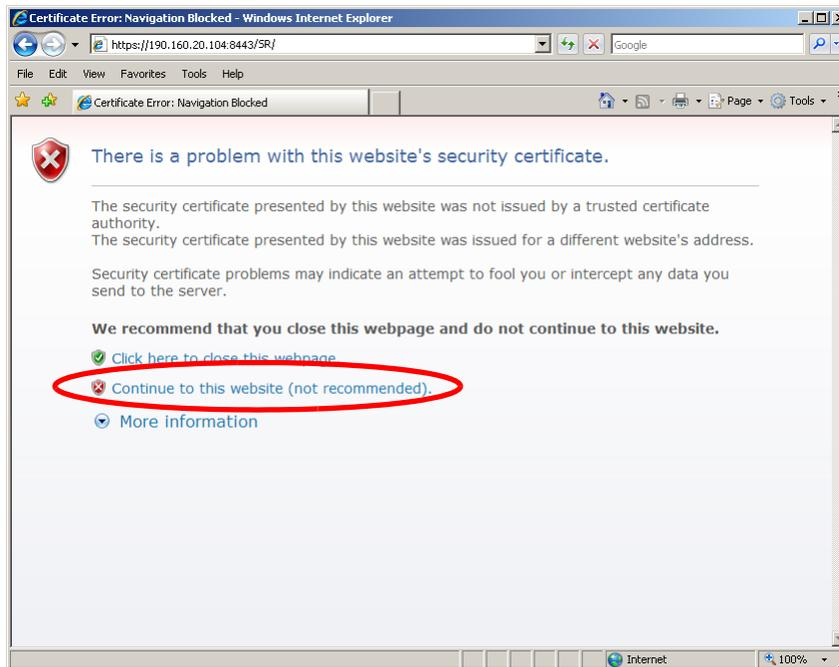
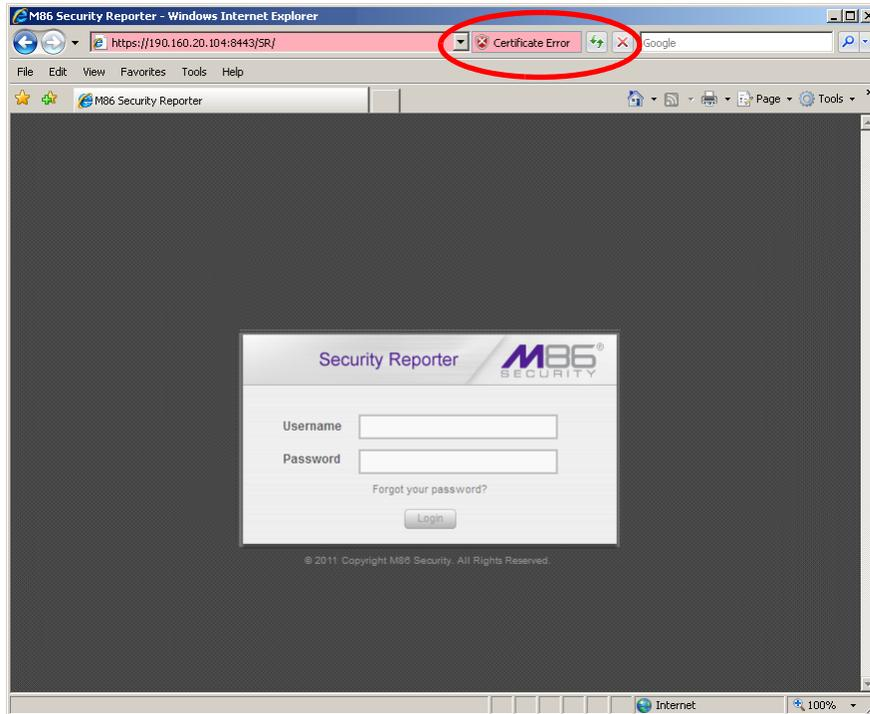

Figure A1: Windows XP, IE 8
Figure A2: Windows XP, IE 8
- When the security issue page re-displays with the message: "There is a problem with this website's security certificate.", click **Continue to this website (not recommended)** (see Figure A1). Choosing this option displays the SR Welcome window with the address field and the Certificate Error button to the right of the field shaded a reddish color (see Figure A2).